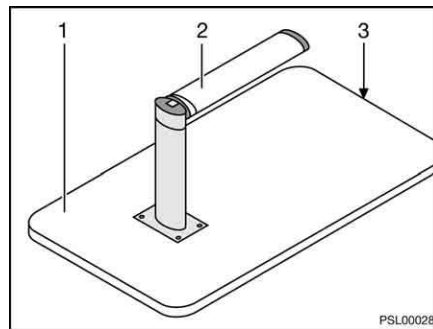

Fig. 24 Bed foundation
- Lift the front of the table-top (Fig. 24,1) by approx. 45°.
- Pull the lower part of the table leg (Fig. 24,2) down and fold through 90°.
- Hook the table-top at a 45° angle to the supports into the lower retainer (Fig. 24,3) and place on the floor with the upper part of the table leg.